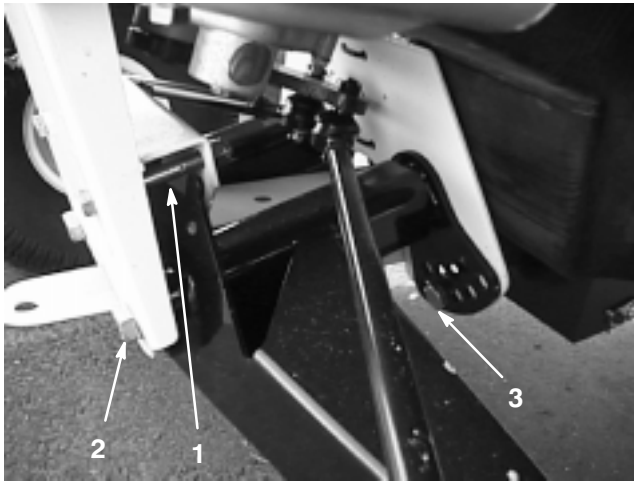

Figure 33
2. Remove the travel limiting bolt (Fig. 33).
3. Loosen the centering bolts in the front "A" frame (Fig. 33).
4. Remove the ride height adjustment bolt (Fig. 33).
5. Rotate the front "A" frame to desired position (Fig. 33).
6. Replace the ride height adjustment bolt and the travel limiting bolt (Fig. 33).